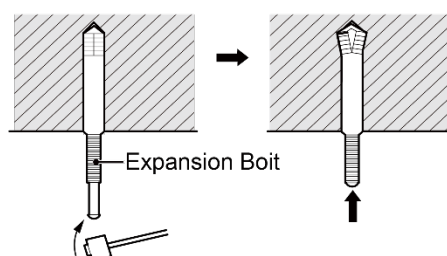

Fig.4.1.3
- (2) Insert the M10 expansion bolt into the hole and then knock the nail into the bolt, as shown in Fig.4.1.3.